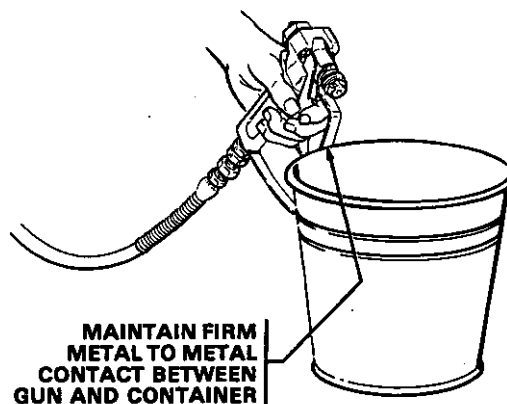

Fig 4.
- f. Hold a metal part of the gun firmly against and aimed into a metal waste container.. See Fig 4. Squeeze the trigger and hold it open, turn the ON/OFF switch to ON, and slowly increase the pressure setting until the sprayer starts. Keep the gun triggered until all air is forced out of the system and the paint flows freely from the gun. Release the trigger and engage the safety.